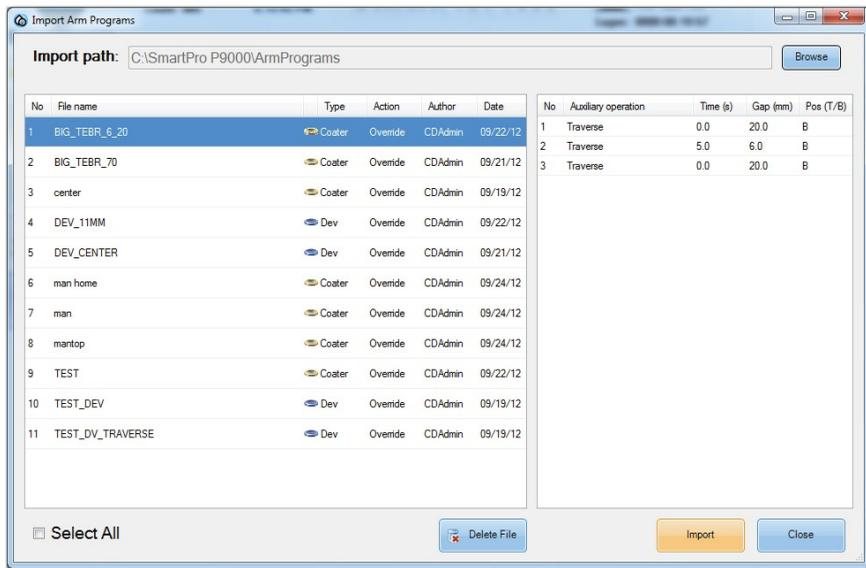

FIGURE 3-8: Importing arm programs
1. On the Arm Programs page, click **Import**. The Import Arm Program dialog box opens. See Figure 3-8.